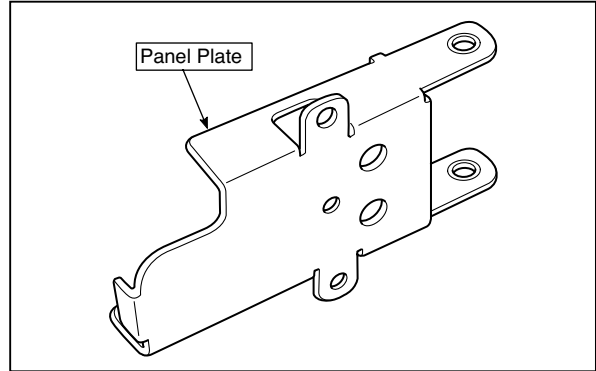

Fig.31
2. Remove the Panel Plate shown in the figure 31.